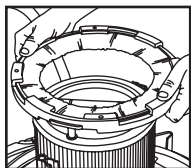

FIGURE 20
27. Remove filter cleaner brush. **FIGURE 20.** Remove filter retainer and cartridge filter.